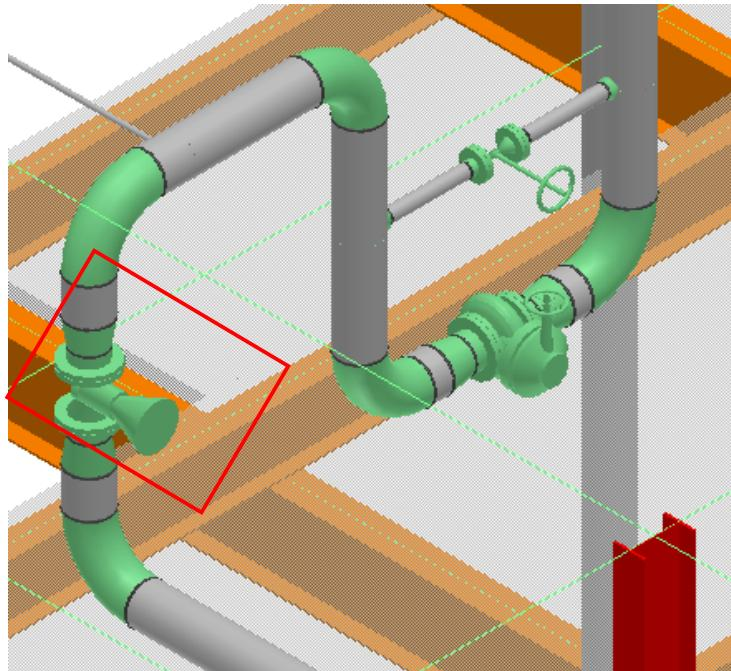

Figure 24: Placed Instrument
- The placed **FV-311** instrument should resemble the highlighted part in Figure 24. Key in **-90 deg** in the **Angle** drop-down list to rotate the instrument.